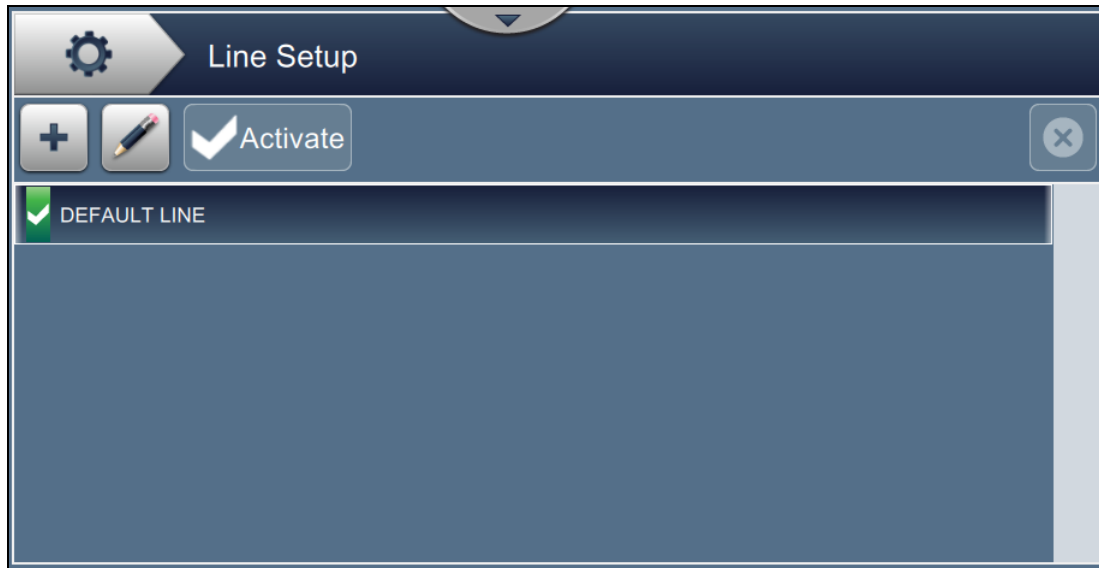

Figure 6-5: Line Setup
1. Touch the  button from the Tools screen. The Line Setup screen opens as shown in the Figure 6-5.